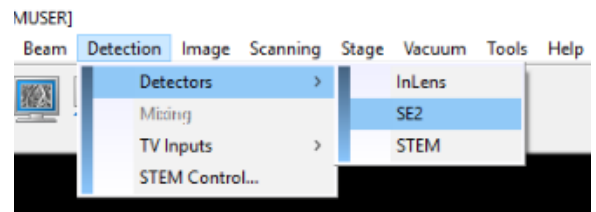

Figure 13
- Select Detector → SE2 (Figure 13)